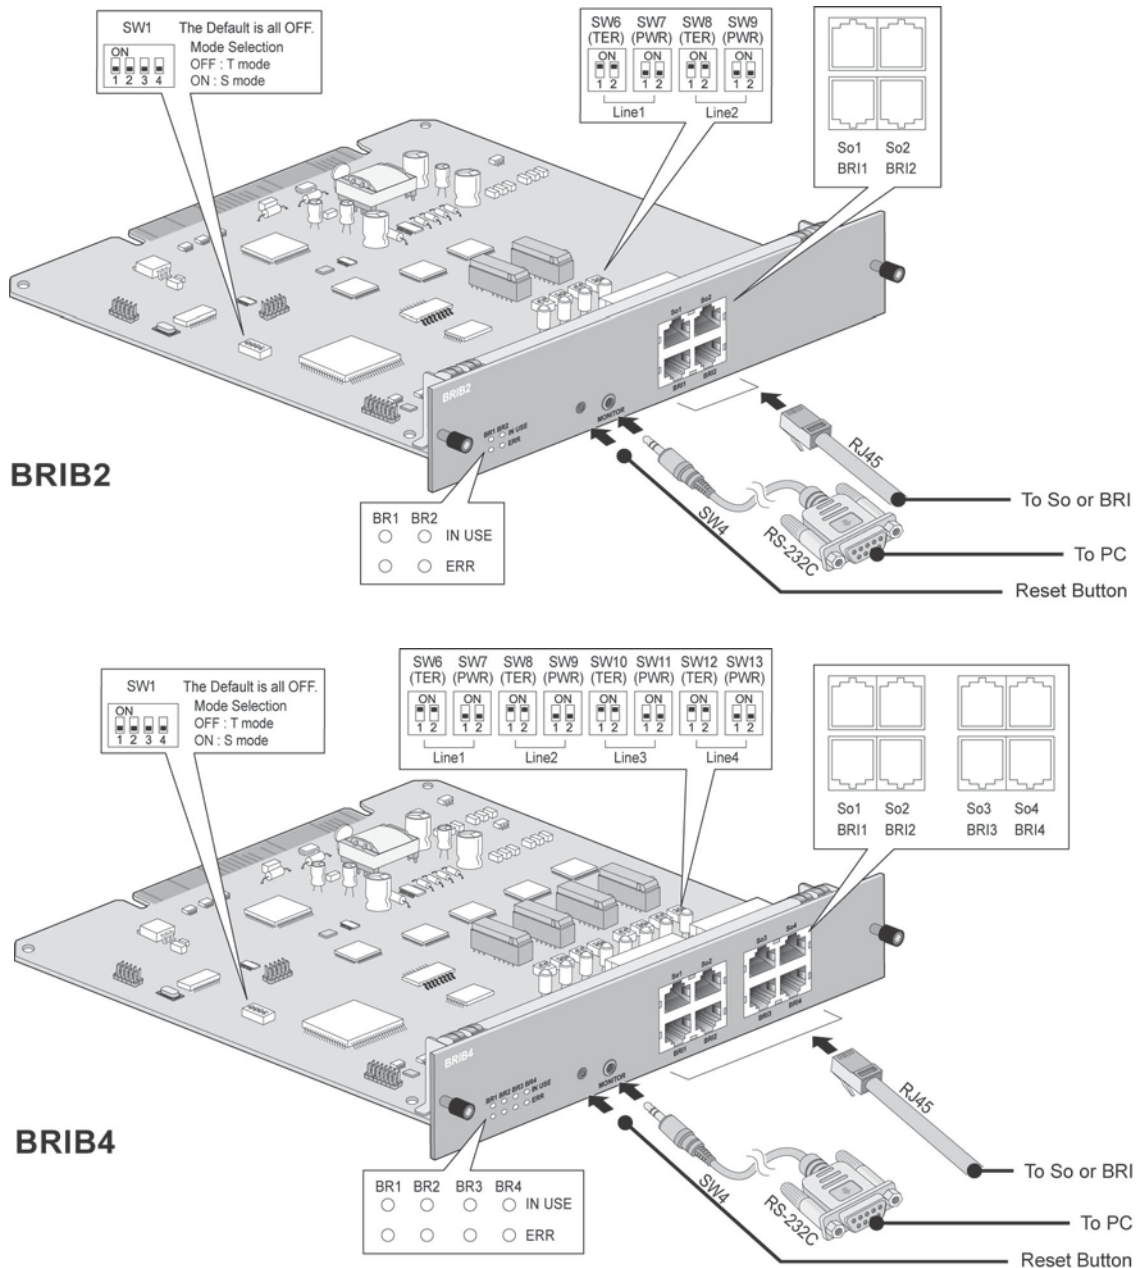

Figure 5.3.2-1 BRIB2 and BRIB4
The BRIB is available in two models, the BRIB2 with two (2) BRI lines (4 channels) and the BRIB4 with four (4) BRI lines (8 channels). The BRIB is compatible with ETSI 3000.012 and ITU-T recommendations I.430 supporting S (Subscriber) or T (Trunk) interfaces. As shown in Figure 5.3.2.3 1, the S interface of the BRIB acts as the NT (Network Termination) connecting to TEs (Terminal Equipments) and can provide power feed (-40VDC) to the attached TEs (maximum eight TEs). A 100-ohm Terminating Resistor can be inserted across the TX and/or RX pair. When used, a 100-Ohm terminating resistor should be connected across the TX and RX pair at one of the TEs.